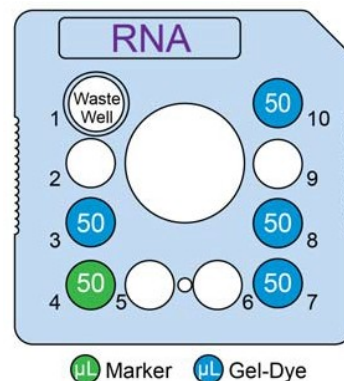
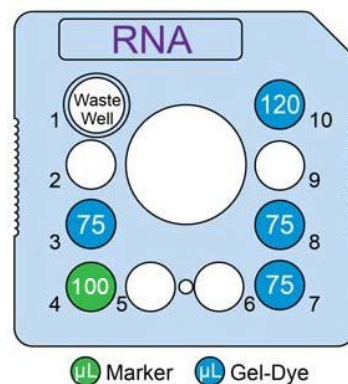

Figure 1. Low-Throughput Chip Preparation
Figure 2. High-Throughput Chip Preparation
2. Using a Reverse Pipetting Techniques, add Gel-Dye solution to chip wells 3, 7, 8 and 10 as shown in **Figure 1 (LT)** or **Figure 2 (HT)**.
3. Add **50 µL (LT)** or **100 µL (HT)** RNA Pico Marker  to chip well 4 as shown in **Figure 1 (LT)** or **Figure 2 (HT)**.